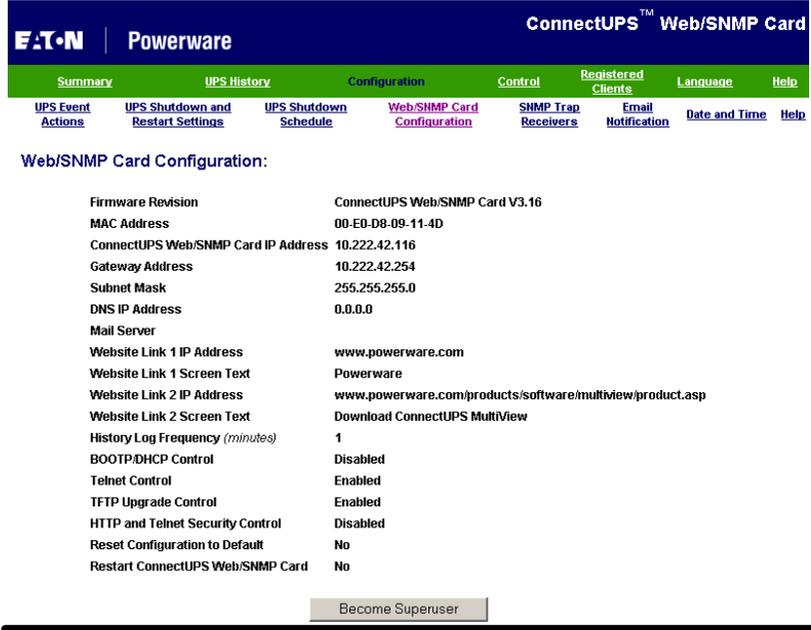

Figure 3. Sample ConnectUPS Web/SNMP Card Configuration Page
2. Select **Configuration** from the menu at the top of the home page, then **Web/SNMP Card Configuration** to set the card parameters (see Figure 3).